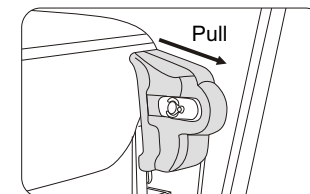

Figure 4
- The calf rest decoration cover is card slot design, make an effort to pull it when disassembly. (figure 4)